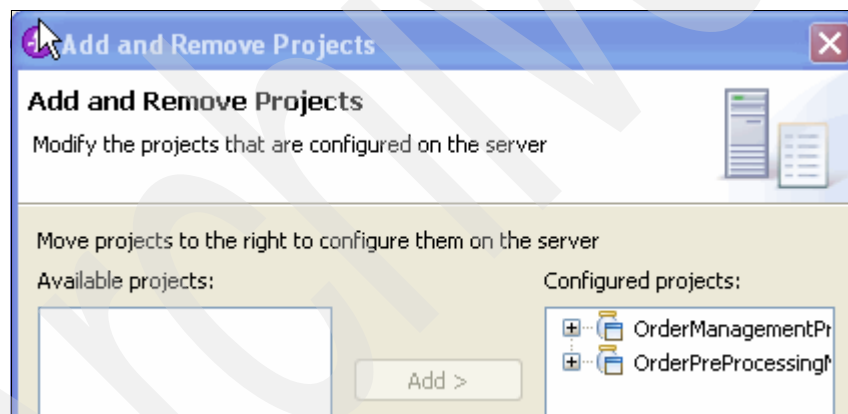

Figure 4-54 Deploying all of the modules for testing
3. Deploy the OrderPreProcessingMediation and OrderManagementProcessEm projects to the test environment using the **Add and Remove projects** option, as shown in Figure 4-54.